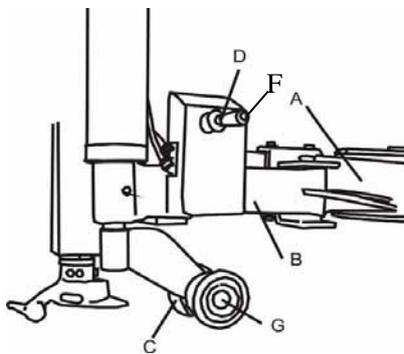

Fig 16
Each components of helping arm device are introduced as follows: (Fig 16&19):
Roller lifting handle (D, Fig 16) is for lifting and lowering roller C、 G so as to adjust tyre demount/mount vertical height. Operate handle (D, Fig 16) up, then roller C、 G goes up; Operate handle (D, Fig 16) down, then roller C、 G goes down.
1. Press tyre with right pressing roller C/G to a position 3cm lower than rim edge, lubricate tyre bead, rotate turntable, lift roller C/G. (Fig 16)